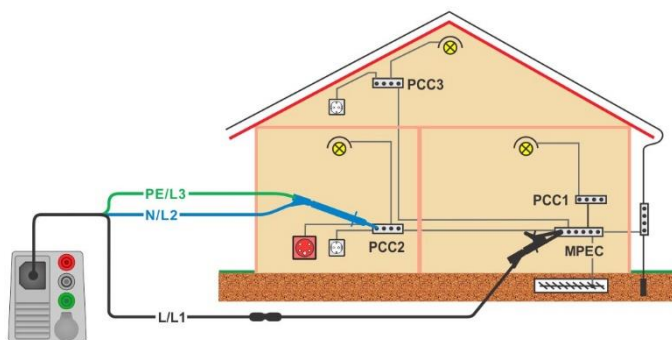

Figure 7.23: Connection of 3-wire test lead plus optional Extension lead
- › Connect test leads, see **Figure 7.23**.